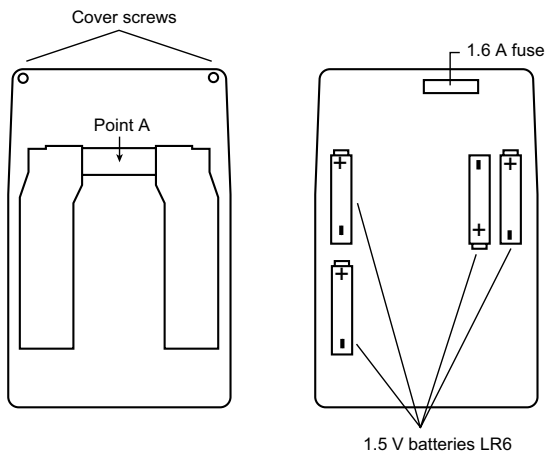

Figure 11
- Remove the two screws from the back of the instrument (Figure 11).
- To close the back stand flush with the back cover, apply light pressure at Point A in Figure 11.